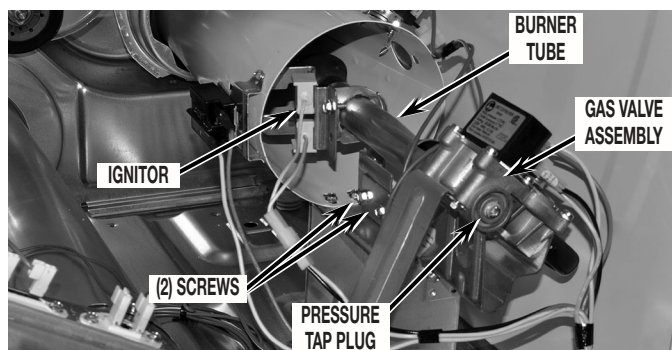

FIGURE 1A
1. Remove the two (2) screws securing the burner tube to the burner base. See Figures 1A and 1B.
4. Slide the burner tube back in place and, using the screws removed in Section 3, step 8, reattach burner tube to the burner assembly. Securely tighten the two (2) mounting screws. See *Figure 1A or 1B*.